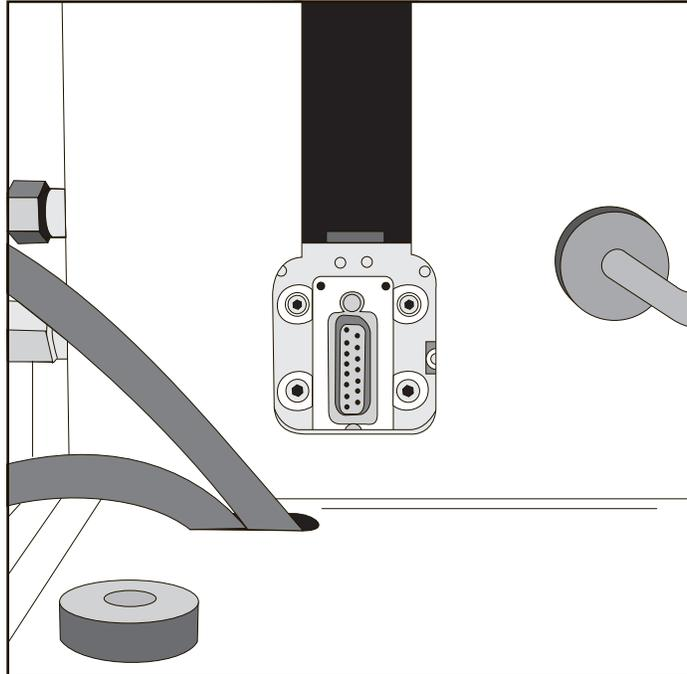

Figure D.4
8. Tighten the upper two mounting screws fully, then loosen each of them no more than one full turn, so that the flat sides of the cleats are aligned vertically as shown in Figure D.4.
Now tighten the lower two mounting screws fully, then loosen each of them two full turns, plus a fraction of a turn, so that the flat sides of the cleats are aligned vertically as shown in Figure D.4.
3. Tighten the upper two mounting screws fully, then loosen each of them no more than one full turn, so that the flat sides of the cleats are aligned vertically as shown in Figure D.4 on page D-10.
Now tighten the lower two mounting screws fully, then loosen each of them two full turns, plus a fraction of a turn, so that the flat sides of the cleats are aligned vertically as shown in Figure D.4 on page D-10.